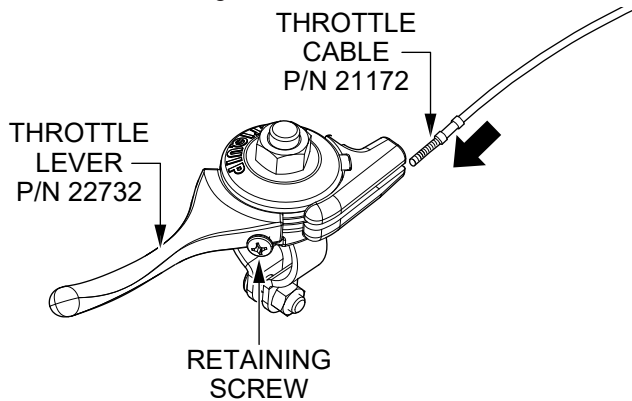

Figure 12. Connect Throttle Cable
12. Feed the **throttle cable** (P/N 21172) through the **throttle lever** (P/N 22732) as shown in Figure 12 and seat the cable housing. Tighten the included **M4 × 0.7 pan-head Phillips retaining screw** to secure the throttle cable in place. Leave about **1/4 inch (6–7 mm)** of cable showing from the rear of the lever.